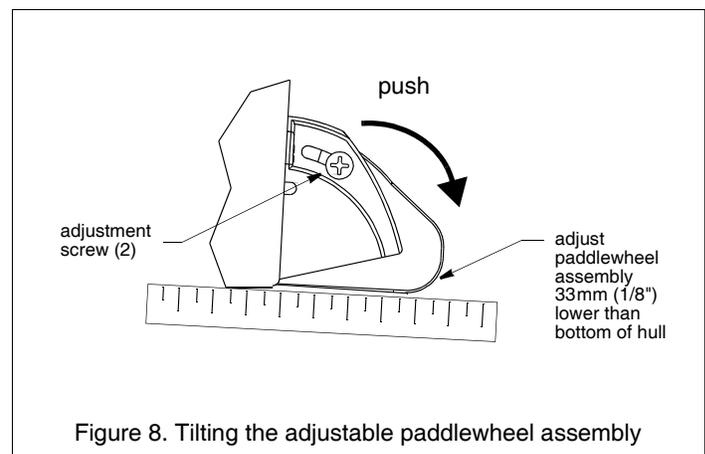

Figure 8. Tilting the adjustable paddlewheel assembly
- a. Increase the sensor's angle in the water. Tilt the adjustable paddlewheel assembly down 2° - 3° or until it is 3mm (1/8") lower than the bottom of the hull (see Figure 8).